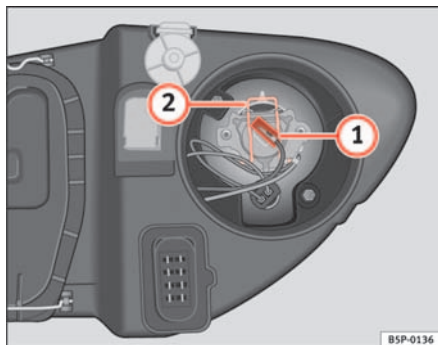

Fig. 159 Main beam headlights
- Remove the connector ⇒ fig. 159 ① from the bulb.
- Press the spring ⇒ fig. 159 ② inwards and to the right.